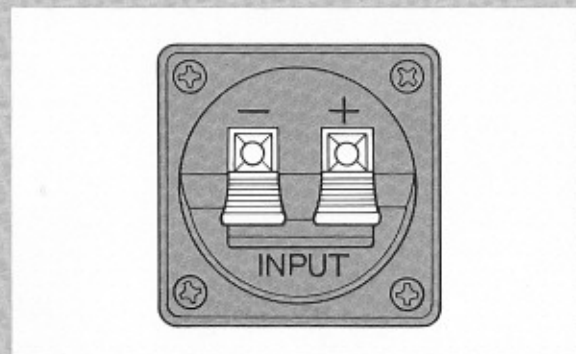
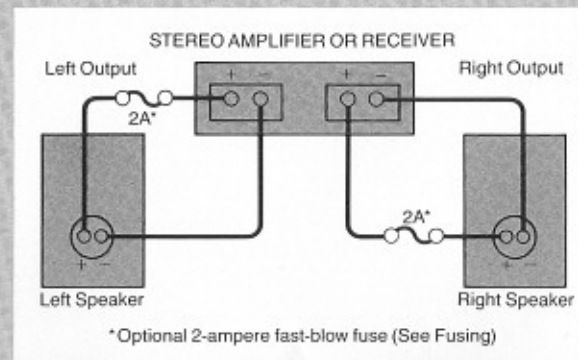

FIGURE 2. To connect the wires to the speakers, depress the buttons below the connectors, and insert the ends of the wires.
FIGURE 3. Make sure to connect terminals positive to positive and negative to negative as shown.
3. Connect one wire conductor to the black terminal (marked "-") on the **left** speaker (see FIGURE 2). Connect the other end of the **same** conductor to the output terminal marked COM, GND, NEG, or "-" on the **left** channel of your receiver or amplifier (see FIGURE 3).
To properly install optional fuses (not provided), fuse-holders should be inserted into the + (POS) wire connecting each speaker to your amplifier or receiver (see FIGURE 2). Use **2-ampere, fast-blow** Buss AGC Series or equivalent fuses.